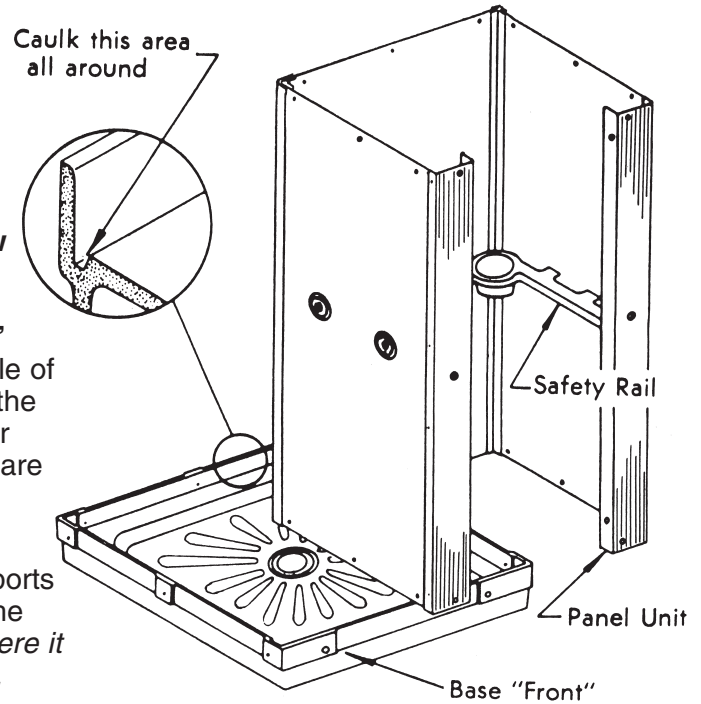

FIG. 5
5. Apply a small bead of quality waterproof caulking (not furnished) in track on **Base** – see illustration. Use the **Safety Rail** to lift the panel unit and place into the track against the caulking. It may be necessary to re-tap the **Corner Lock Strips** to ease installation. (FIG. 5)